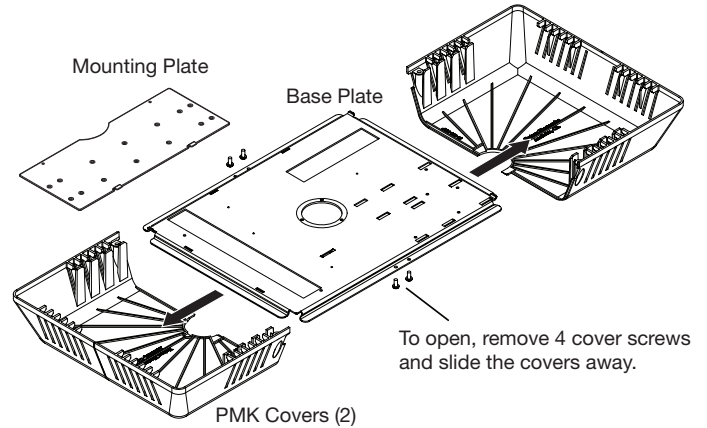

Figure 1. PMK 560
1. Remove the four cover screws from the center of the PMK 560 (see figure 1). Slide the two halves apart and remove them from the base plate.